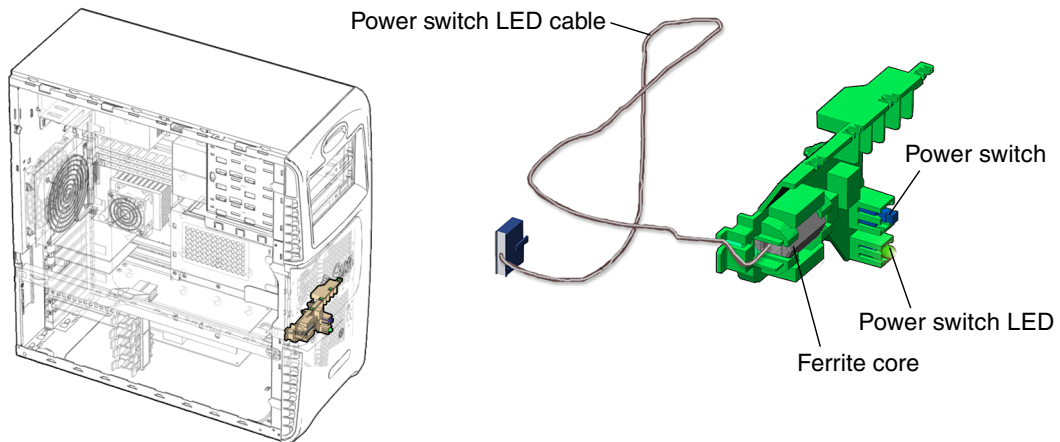

FIGURE 14-19 Power Switch and LED Cable Assembly Location and Identification
The power switch and LED cable assembly consists of a ferrite core, a power switch, and a power switch LED (FIGURE 14-19). The power switch and LED cable assembly has a single LED to indicate power status of the system.
2. Locate the power switch and LED cable assembly (FIGURE 14-19).
2. Locate where the power switch and LED cable assembly is to be installed (FIGURE 14-19).